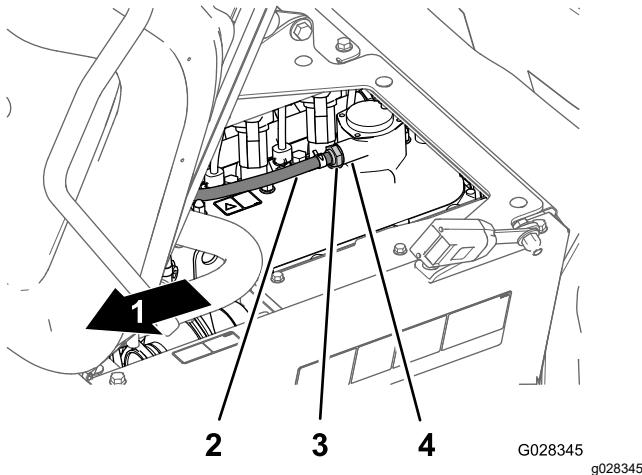

Figure 81
2. Remove the PCV valve from the fitting of the valve cover (Figure 81).
**Note:** If the internal restrictor of the valve rattles, the PCV valve is serviceable; if the internal restrictor is not free to rattle when shaken, replace the PCV valve (Figure 81).
4. Insert the PCV valve until it is fully seated in the seal for the valve-cover fitting (Figure 81).